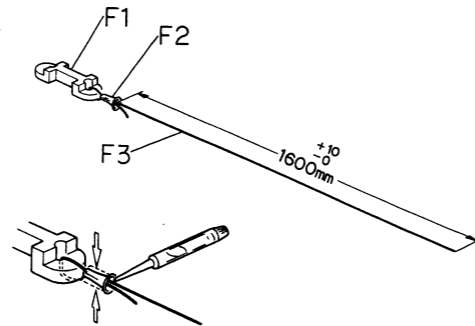

Fig. 5.1
(1) Dismount the cabinet assembly and front panel assembly from the body, and remove the tuner block from the chassis.
(2) Refer to Fig. 5.1. Hitch F3 (dial thread) to F1 (sp stopper) with F2 (thread guide) containing the thread at the tip of F1. After pinching F2 with cutting pliers or similar, drip a drop of AVDEL BOND #C-2 onto the crushed F2 for fixing.